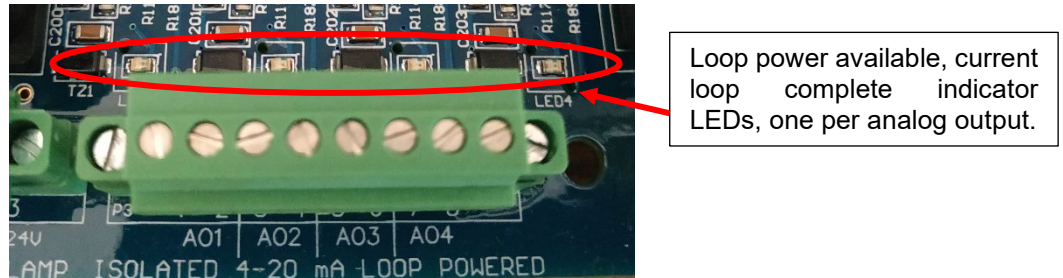

Figure 91: Analog Output Terminal Block P3
3. Connect a multimeter set to milliamp measurement to the analog output to be calibrated. The analog outputs are all on terminal block P3 of the IO board. The terminals for each analog output are clearly marked on the board. Refer to Figure 91.
The analog outputs on the IO board are loop powered, so an external power supply must be provided. The multimeter must be placed in **SERIES** with the current loop. When the multimeter is connected correctly, a green LED above the analog output wiring connection on the IO board will illuminate to show that the current loop is closed and loop power is being provided, as indicated in Figure 91.